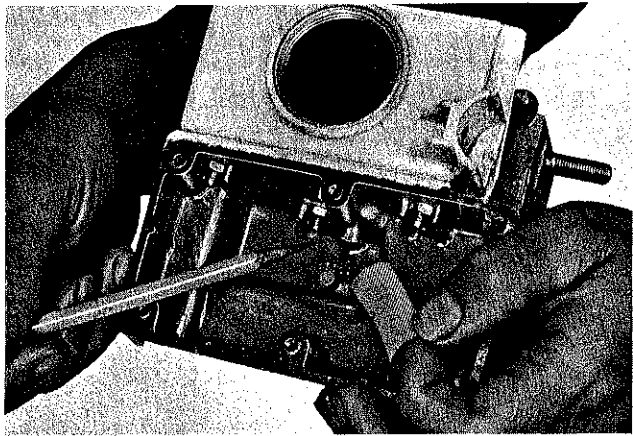

Figure VIII-6. Oiler screen removed from oiler tank for service. One end of the screen fits in the recess under the center screw and nut.
9. Oiler tank screen. (Figure VIII-6)